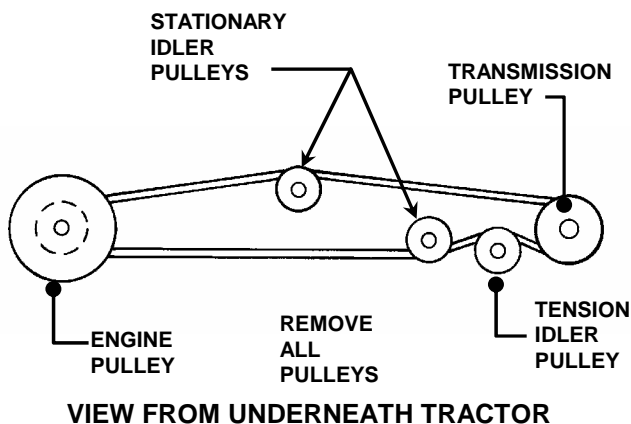

FIGURE 4.28
4. Remove mounting nuts that secure the traction drive belt idler tension pulley and stationary idler pulleys. See Figure 4.28.